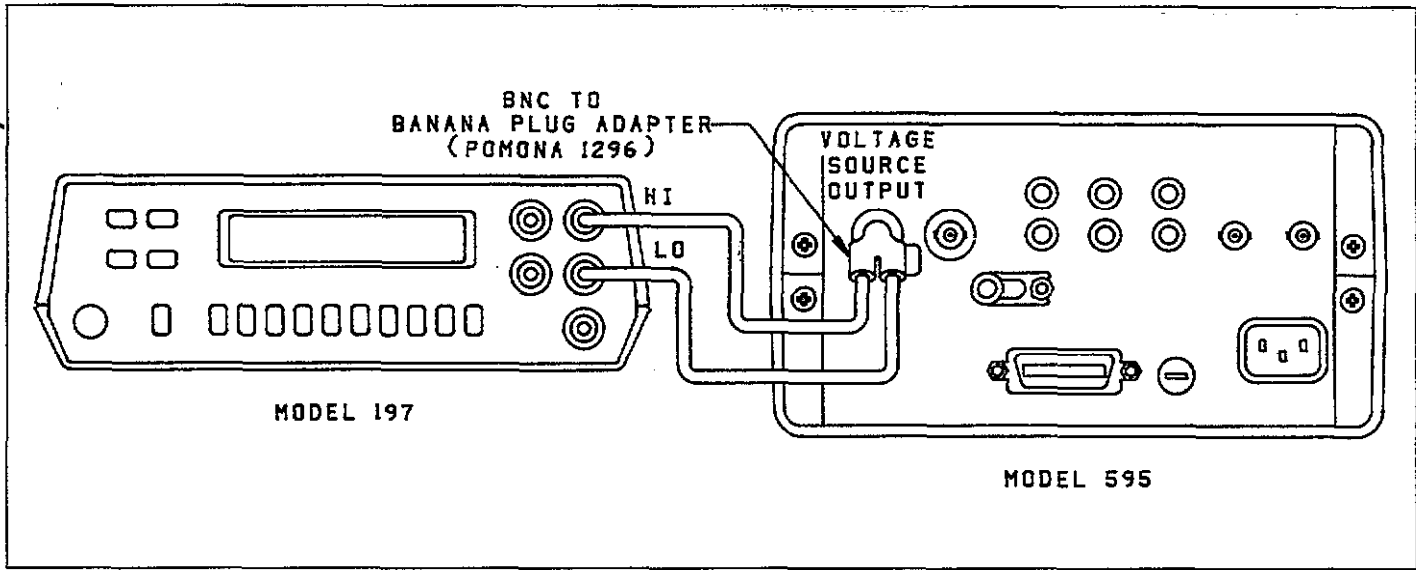

Figure 6-4. Setup for Voltage Source Verification
1. Connect the DMM (see Table 6-1) to the VOLTAGE SOURCE OUTPUT connector, as shown in Figure 6-4.